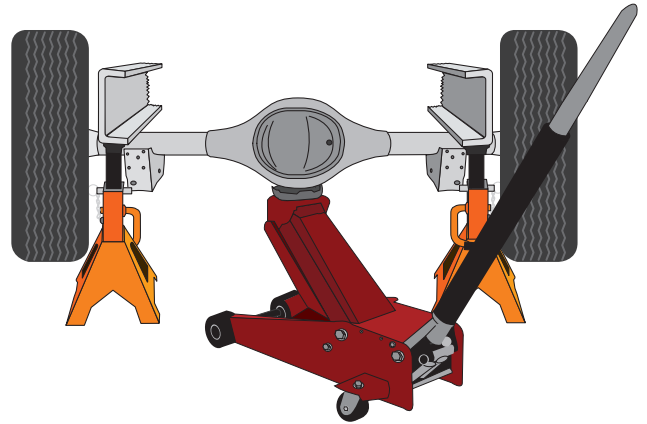

Fig. 2
1. Lift the vehicle and support the frame with safety stands (Fig. 2). Drop the axle down low enough to later set the air springs into position between the frame and axle.
1. Installing the assemblies is made easier by supporting the vehicle frame and dropping the axle down slightly (Fig. 2). The lower bracket will sit directly on the axle.